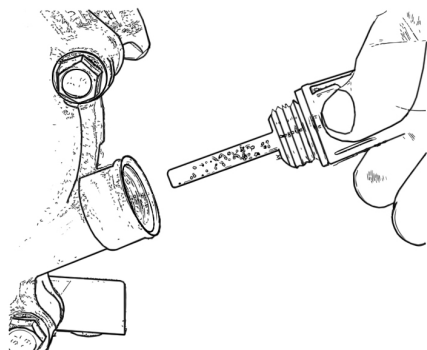

Figure 14
- Immerse the dipstick completely in the oil. Never turn the dipstick into the thread, Fig. 14.